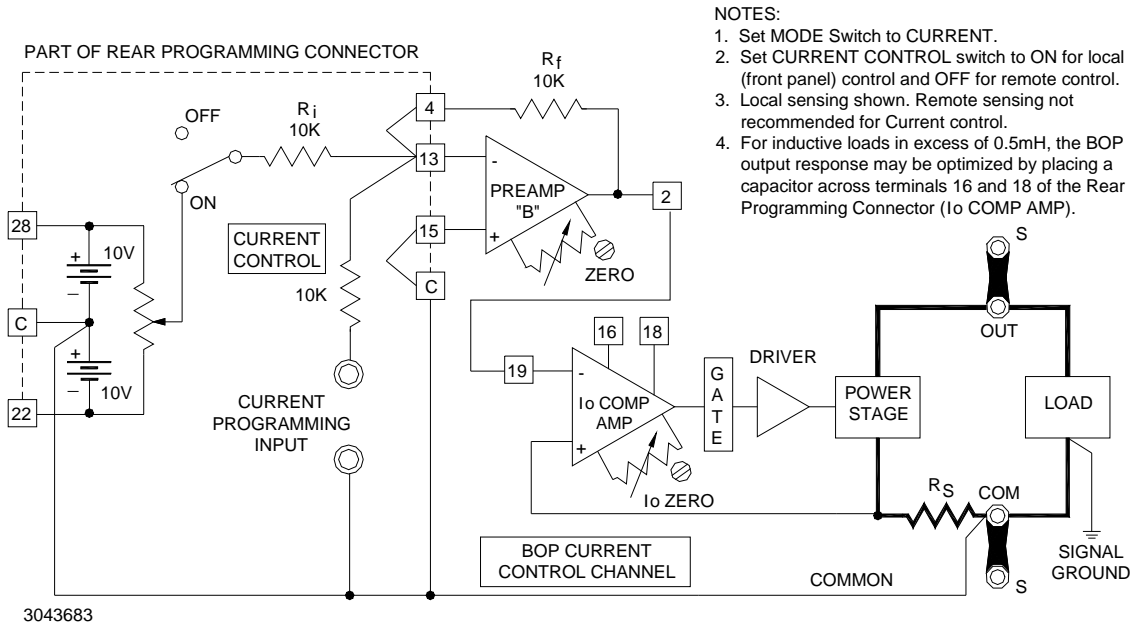

FIGURE 3-3. BOP CURRENT CONTROL CHANNEL (LOCAL CONTROL, LOCAL SENSING)
- Current Control Channel: see Figure 3-3 and PAR. 3.3.3 for local control.
The BOP may be used as a stabilized d-c source of positive or negative current, with output voltage limiting (for either polarity), pre-selected for the application at hand. Figure 3-3 illustrates the current control circuit configured for local (front panel) control using local sensing.